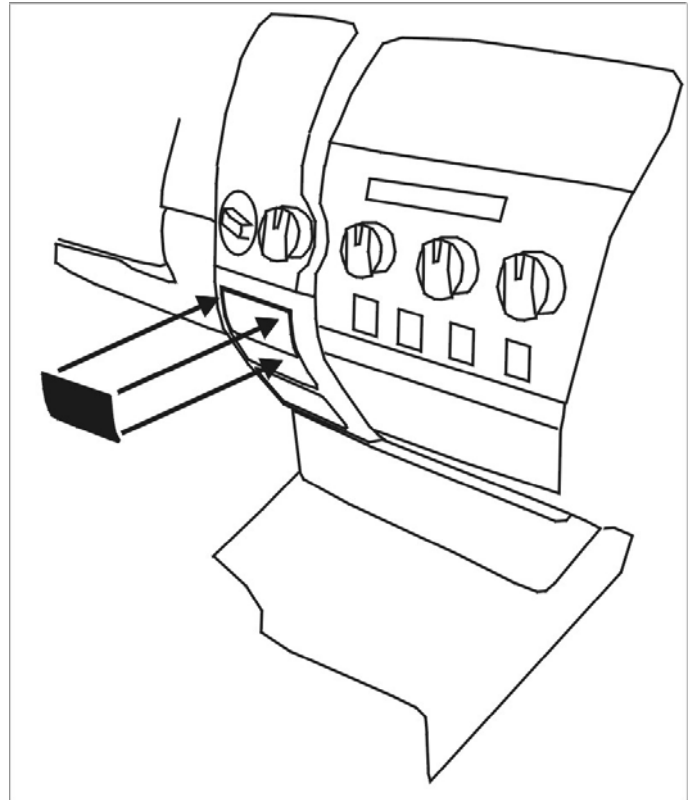

Fig. 4-3
(2) Storage Lid: Align part uniformly to edge of factory storage compartment. (Fig. 4-3)